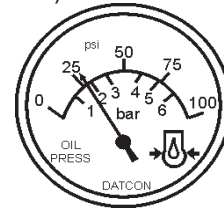

Figure 48. Oil Pressure Gauge
14. The engine oil pressure gauge (Figure 48) will indicate the oil pressure (kg/cm²) of the engine. Under normal operating conditions the oil pressure is between 28 ~71 psi (193 ~490 kPa).